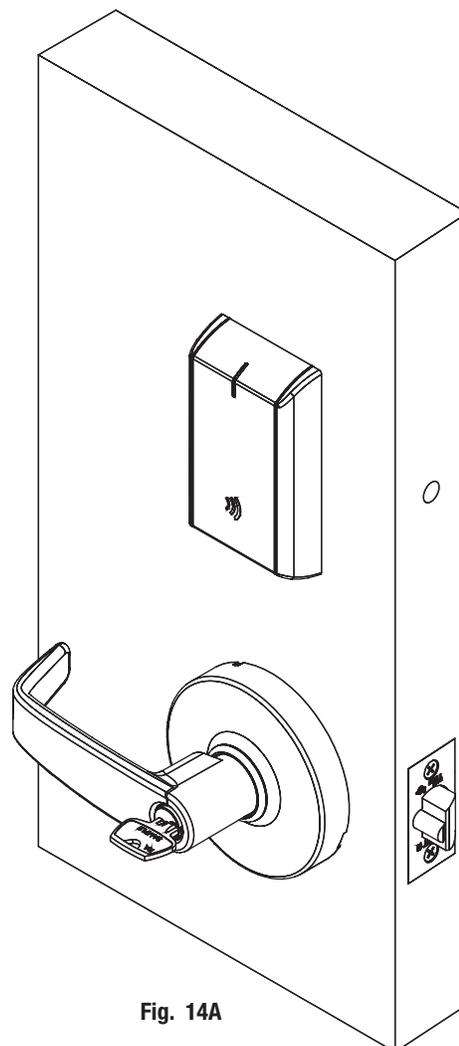

Fig. 14A
1. Insert key into cylinder and rotate (Fig. 14A).